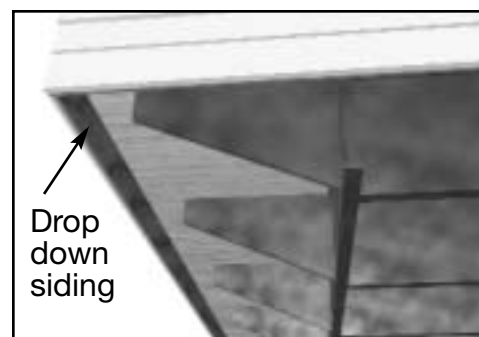

Fig. 5
1. **Drop down siding:** If the house has drop-down siding extending more than 2 inches below the floor joist, no trim is needed. (Fig. 5)